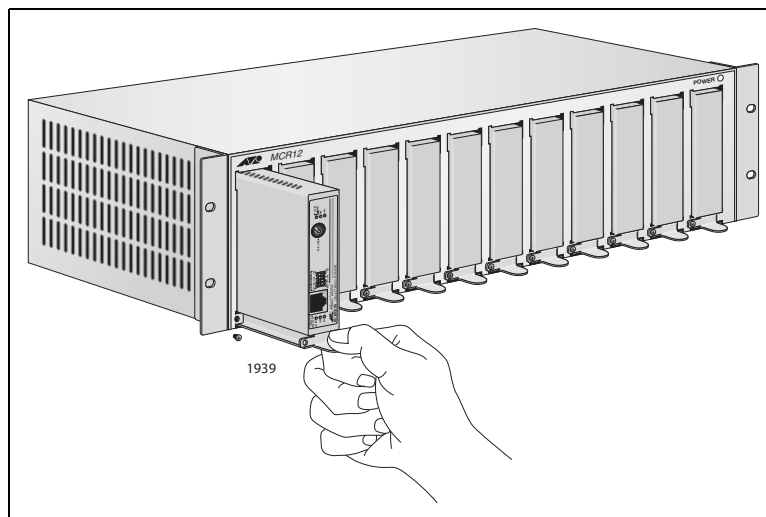

Figure 15. Rack Mount - Set in Rack
3. Position the slider, as shown in Figure 15 and push into the chassis.